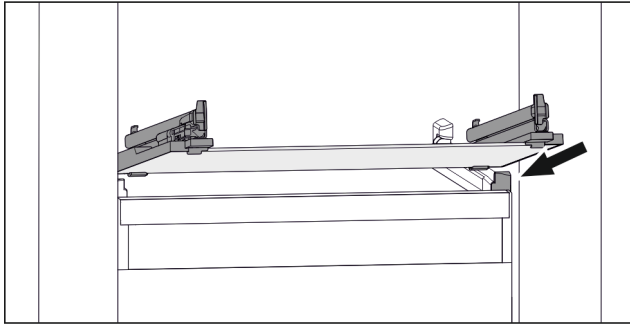

Fig. 129 Example illustration of glass shelf
- Position glass shelf at an angle behind the stoppers. (see Fig. 129)